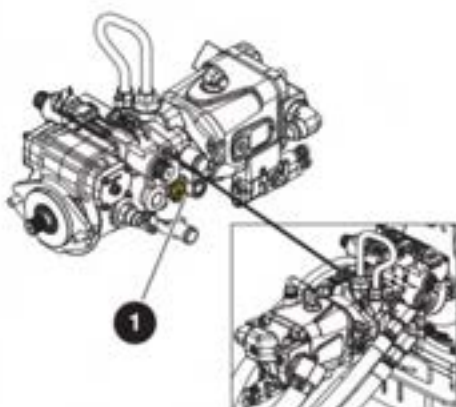

Figure 15 Drive-bypass valve
3. Find the drive-bypass valve on the inboard side of the drive pump. Loosen the valve stem (item ① - identified with yellow paint - *Figure 15*) 90 degrees clockwise to bypass the drive pump.